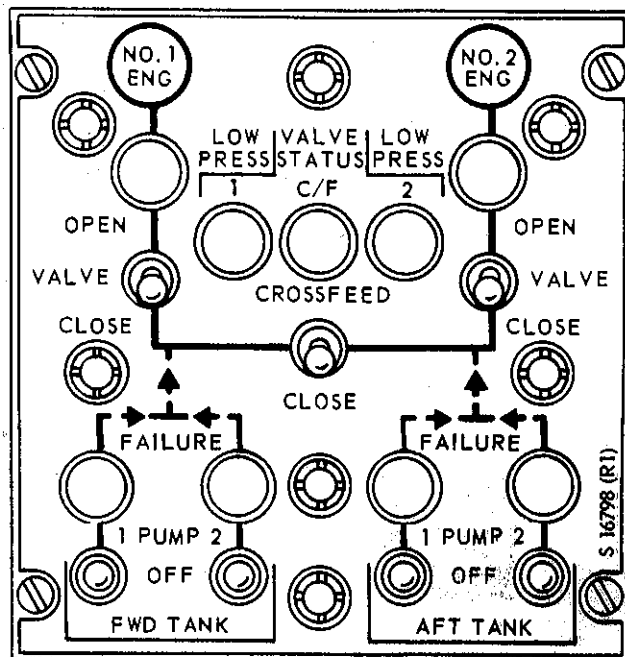

Figure 1-23. Fuel Management Panel
The two fuel shut-off valve switches, marked VALVE, are located on the fuel management panel (figure 1-23). The switch, marked NO. 1 ENG with marked positions OPEN and CLOSE, controls the flow of fuel to the No. 1 engine. The switch, marked NO. 2 ENG with marked positions OPEN and CLOSE, controls the flow of fuel to the No. 2 engine. The switches control the fuel shut-off valves located on top of the cargo compartment before the engine compartment. Placing either switch in the CLOSE position shuts off the flow of fuel to the appropriate engine. The fuel shut-off valves are also actuated to the closed position when the appropriate fire emergency shut-off selector handle is pulled. The fire emergency shut-off selector handles, marked FIRE EMER SHUT-OFF SELECTOR, located on the overhead control panel, arm the fire extinguisher circuit in addition to actuating the fuel shut-off valves. In the event of electrical failure, the fuel shut-off valves will remain in the last switch position energized. The fuel shut-off valves are provided with a fail safe capability. The fail safe capability prevents the valves from changing position should a possible malfunction occur whereby both the open and close circuits of the valve are energized simultaneously. The fuel shut-off valves and switches operate on current from the dc essential bus and are protected by circuit breakers marked EMER SHUT-OFF 1-ENG-2 under the general headings FUEL SYSTEM and VALVES, located on the overhead dc circuit breaker panel.
The fuel crossfeed valve switch, marked CROSS-FEED, is located on the fuel management panel (figure 1-23). The switch has marked positions OPEN and CLOSE and controls the fuel crossfeed valve located on top of the cargo compartment between the two fuel systems supply lines in the crossfeed line. With the switch in the CLOSE position, the forward fuel tank supplies fuel to the No. 1 engine and the aft fuel tank supplies the No. 2 engine. When the switch is placed in the OPEN position, the crossfeed valve opens and allows fuel under pressure to be supplied
Valve status warning lights for each shut-off valve and the crossfeed valve are located on the fuel management panel (figure 1-23). The lights, marked 1, 2, and C/F, under the heading VALVE STATUS, illuminate to provide an indication of the status of the shut-off and crossfeed valves. The appropriate light will be illuminated when a valve is being actuated from one position to another, if a protective relay is inoperative when electrical power is applied to the helicopter, or if both the closing and opening circuits should become simultaneously energized. The valve status lights use the same power source and protective circuit as the low fuel pressure warning lights.
Two low fuel pressure warning lights, marked #1 LOW PRESS, #2 LOW PRESS, are located on the fuel management panel (figure 1-23). The warning lights will illuminate whenever fuel pressure drops below minus 5 psi at the pressure switch, located between the fuel shut-off valve and the engine. The intensity of the lights may be varied by rotating a rheostat under the heading CONSOLES, marked LOWER, located on the overhead switch panel. The warning lights receive electrical power from the dc essential bus through circuit breakers, under the general heading INDICATOR LTS and marked FUEL PRESS 1 and 2, located on the overhead dc circuit breaker panel.
Four boost pump switches, grouped according to fuel tank designations, are located on the fuel management panel (figures 1-23). The two boost pump switches for the pumps in the forward tank are marked FWD TANK 1 and 2, and those for the aft tank AFT TANK 1 and 2. The number designation, whether 1 or 2, indicates the boost pump controlled by the particular switch. Each switch has marked positions PUMP (ON) and OFF. All boost pump switches are connected to the dc essential bus through circuit breakers, marked FWD TANK 1 and 2, and AFT TANK 1 and 2, under the general headings FUEL SYSTEM and PUMP CONT, located on the overhead dc circuit breaker panel. When the switches are placed in the PUMP (ON) position, dc power from the dc essential bus closes relays in the circuit between the appropriate ac essential bus and the respective boost pump. The OFF position de-energizes the relays, cutting off ac power to the respective boost pump.
Each of the four boost pumps is provided with a pressure switch that is connected to the pressure feed line from each boost pump. The fuel pressure switches actuate the boost pump failure warning lights, marked FAILURE, located on the fuel management panel (figure 1-23), when the boost pump pressure falls below a safe operating pressure. Each boost pump is provided with an individual boost pump failure warning light located above the respective boost pump switch. The boost pump failure warning lights should illuminate and then go off when the boost pumps are first turned on, or when the boost pump switches are being tested. They are illuminated until fuel pressure is built up in the system. The pressure switches close if the boost pressure decreases to, or is below, approximately 16-1/2 psi and energizes the respective boost pump